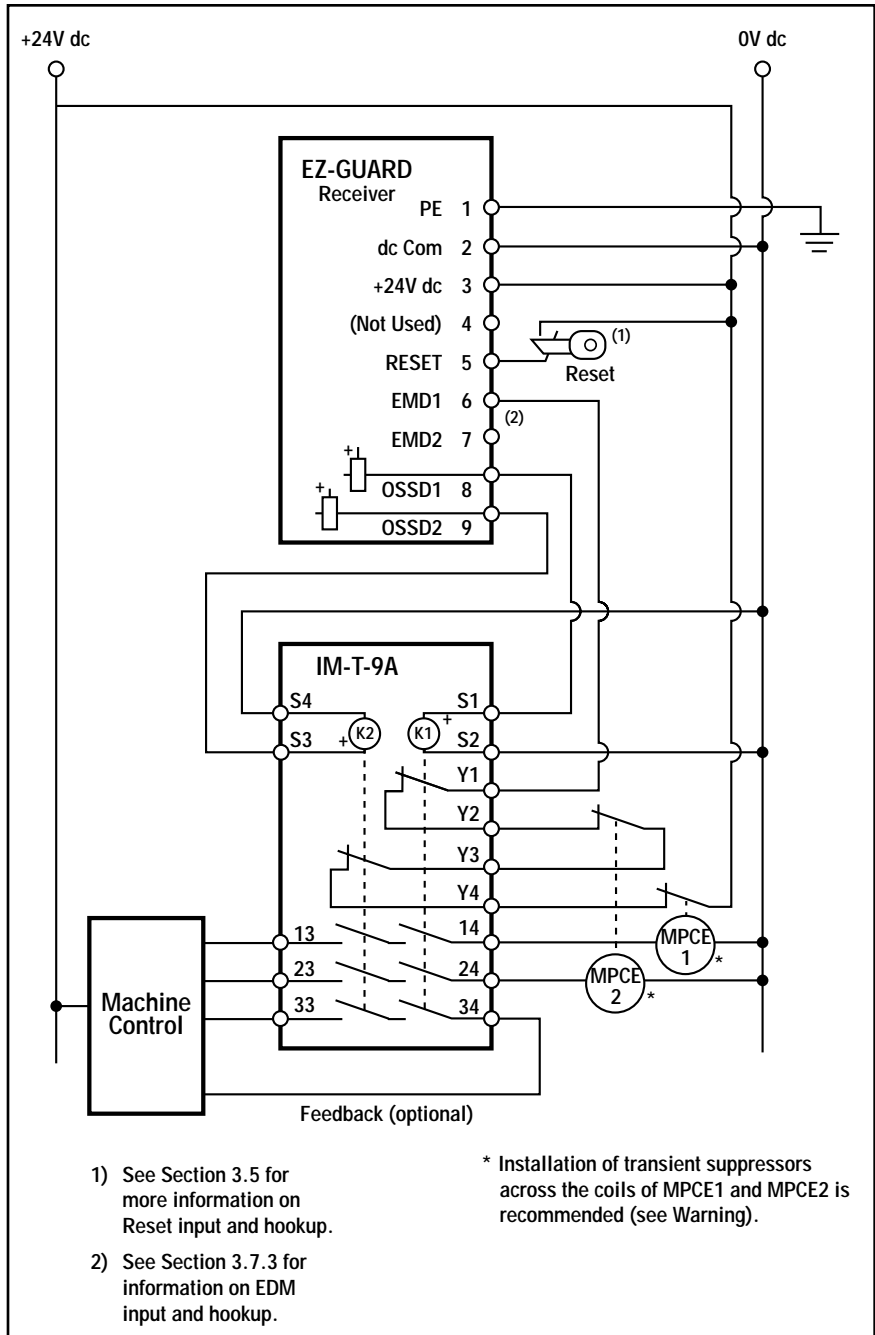

Figure 3-21. EZ-GUARD receiver generic hookup – interface module (1-channel EDM, key reset)
- **One-channel monitoring** is a series connection of closed monitor contacts that are forced-guided (captive contact) from each device controlled by the EZ-GUARD System. The monitoring contacts should open within 200 milliseconds of the OSSD outputs turning on (a clear condition) and should close within 200 milliseconds of the OSSD outputs turning off (a blocked condition) or a lockout will occur (see Diagnostics, Section 5.1). Refer to Figure 3-21 for 1-channel EDM hookup. Connect the monitor contacts between +24V dc and EDM1 (terminal 6). Leave EDM2 (terminal 7) open (no connection). Set the configuration DIP switches to 1, per Section 4.1.